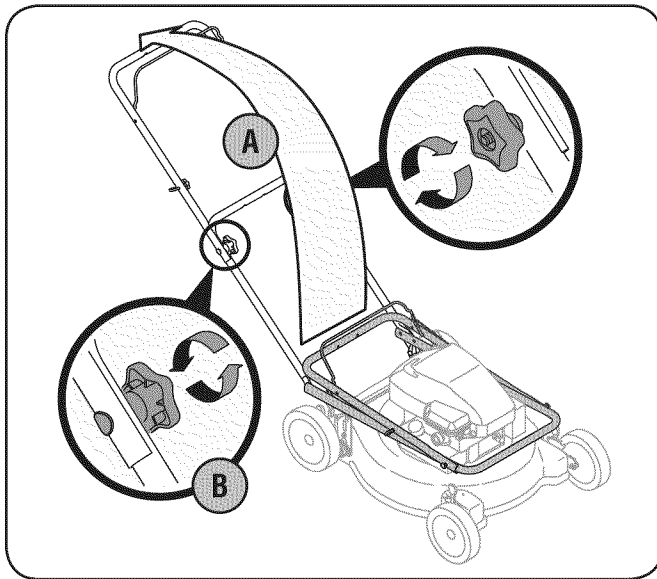

Figure 3-1
- a. Pull up and back on upper handle as shown in Fig. 3-1. Make certain the lower handle is seated securely into the handle mounting brackets. Do not crimp cable while lifting the handle up.
- b. Tighten star knobs securing upper handle to lower handle. See Fig. 3-1. Make sure that each carriage bolt is seated properly in the handle.